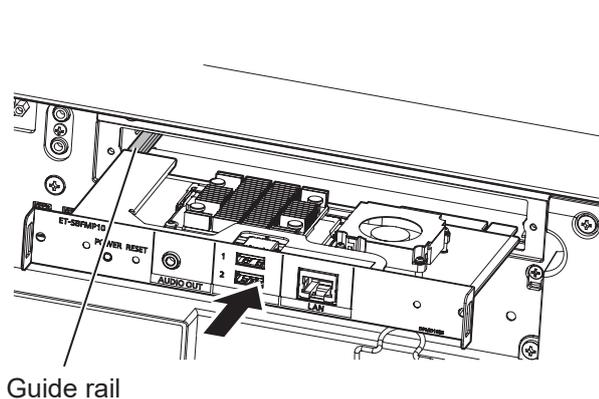

Fig. 2
2) Install the Function Board to the projector. (Fig. 2)